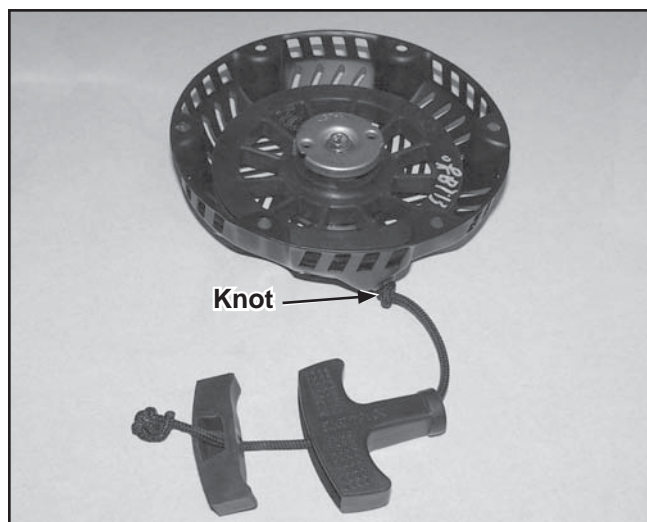

Figure 7-3. Removing Starter Handle.
2. Pull the rope out approximately 12 in. and tie a temporary (slip) knot in it to keep it from retracting into the starter. See Figure 7-3.